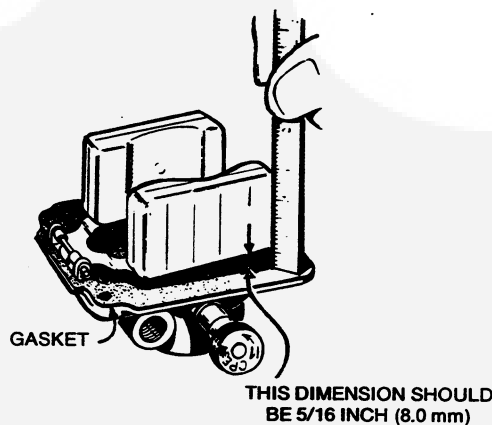

FIGURE 18. FLOAT LEVEL ADJUSTMENT
- With the carburetor casting inverted and the float resting lightly against the needle and seat, there should be 5/16-inch (1/4-inch with Styrofoam plastic float) clearance between the bowl cover gasket and the free end of the float (side opposite needle seat), Figure 18.